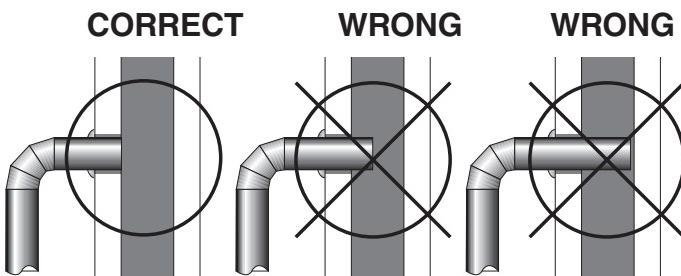

Fig. 5 – Stovepipe/Flue Connections
4. The pipe cannot extend into the chimney flue (figure 5).
5. Secure pipe/elbow sections with three (3) sheet metal screws at each joint to make the piping rigid.
2. Install a metal or fire clay (5/8" minimum thickness) thimble. Make sure the thimble is flush with the inner surface of the chimney liner and does not protrude into the flue (see figure 5 on page 4).
4. Install the stovepipe into the thimble as far as possible without extending past the flue lining (see figures 5 & 6 on pages 4 & 5).